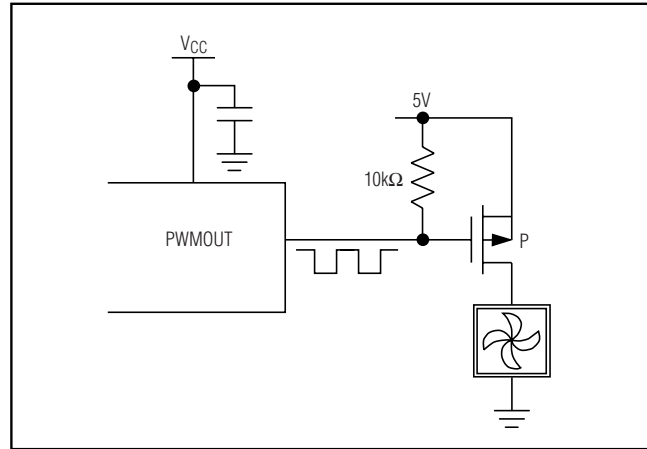

Figure 5. Driving a P-Channel MOSFET for Top-Side PWM Fan Drive
- 1) PWMOUT drives the gate of a MOSFET or the base of a bipolar transistor in series with the fan's power supply. The *Typical Application Circuit* shows the PWMOUT pin driving an n-channel MOSFET. In this case, the PWM invert bit (D4 in register 02h) is set to 1. Figure 5 shows PWMOUT driving a p-channel MOSFET and the PWM invert bit must be set to zero.